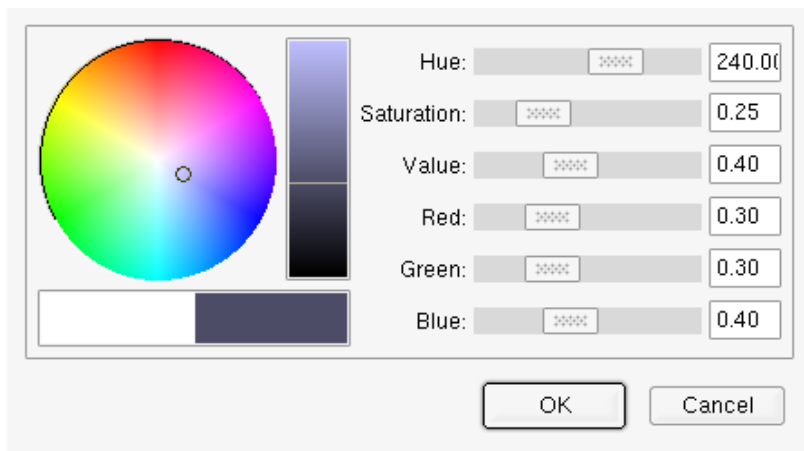

Figure 2.28: Background Color window
- **Options**→**Background** shows the Background Color window, Figure 2.28.